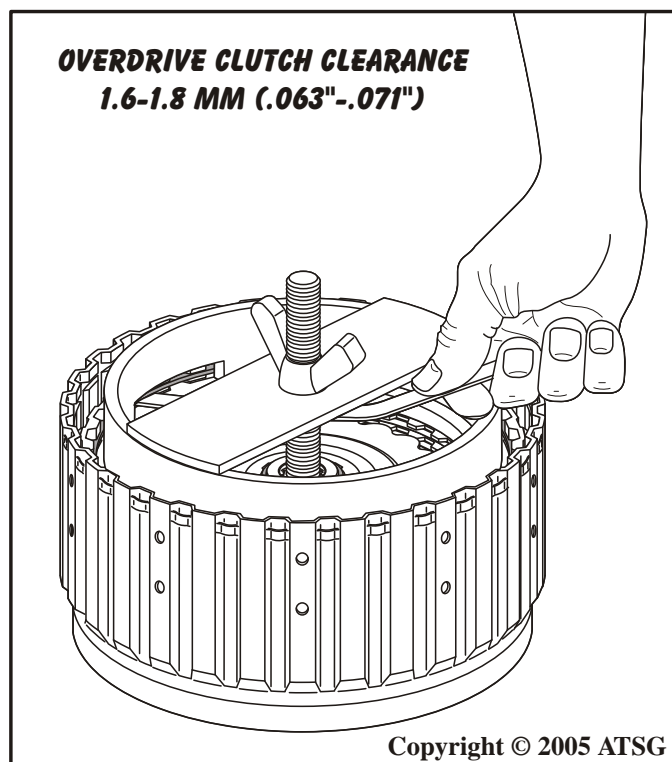

Figure 86
19. Compress the plates and measure with feeler gage between snap ring and backing plate, as shown in Figure 86.